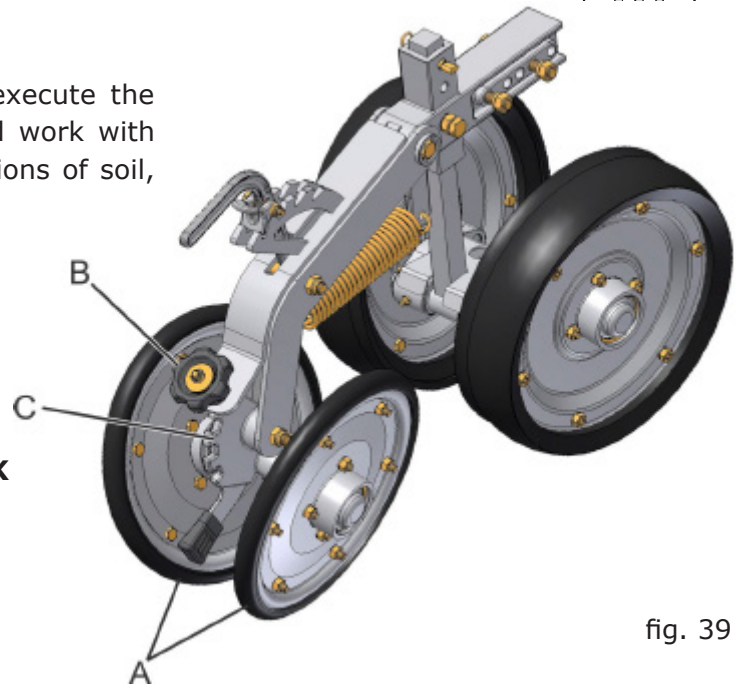

fig. 39
The compactors in "V" (A) (fig. 39) execute the pressure of the soil sideways on the seed and work with several adjustments of pressure, as per conditions of soil, haystack, humidity, etc.